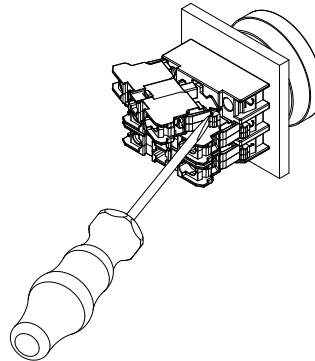

Fig. 3
1. Removal of the RF contact elements is carried out with the aid of a cross-point screwdriver with the recommended width of 5.5 mm (see Fig. 3).